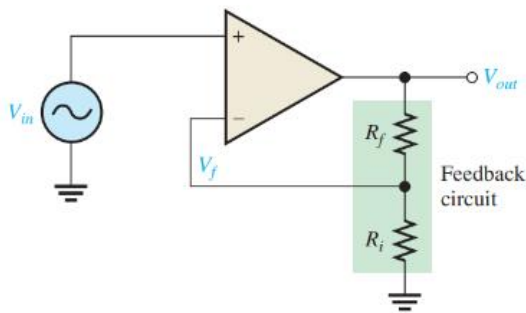

FIGURE 12–16
Differential Mode In the **differential mode**, either one signal is applied to an input with the other input grounded or two opposite-polarity signals are applied to the inputs. When an op-amp is operated in the single-ended differential mode, one input is grounded and a signal voltage is applied to the other input, as shown in Figure 12–4. In the case where the signal voltage is applied to the inverting input as in part (a), an inverted, amplified signal voltage appears at the output. In the case where the signal is applied to the non-inverting input with the inverting input grounded, as in Figure 12–4(b), a noninverted, amplified signal voltage appears at the output.
In the double-ended differential mode, two opposite-polarity (out-of-phase) signals are applied to the inputs, as shown in Figure 12–5(a). The amplified difference between the two inputs appears on the output. Equivalently, the double-ended differential mode can be represented by a single source connected between the two inputs, as shown in Figure 12–5(b).
Common Mode In the **common mode**, two signal voltages of the same phase, frequency, and amplitude are applied to the two inputs, as shown in Figure 12–6. When equal input signals are applied to both inputs, they tend to cancel, resulting in a zero output voltage.
► **FIGURE 12–6**
First, the ideal op-amp has *infinite voltage gain* and *infinite bandwidth*. Also, it has an *infinite input impedance* (open) so that it does not load the driving source. Finally, it has a *zero output impedance*. Op-amp characteristics are illustrated in Figure 12–2(a). The input voltage, V_{in} , appears between the two input terminals, and the output voltage is $A_v V_{in}$, as indicated by the internal voltage source symbol. The concept of infinite input impedance is
An op-amp connected in a **closed-loop** configuration as a **noninverting amplifier** with a controlled amount of voltage gain is shown in Figure 12–16. The input signal is applied to the noninverting (+) input. The output is applied back to the inverting (–) input through the feedback circuit (closed loop) formed by the input resistor R_i and the feedback resistor R_f . This creates negative feedback as follows. Resistors R_i and R_f form a voltage-divider circuit, which reduces V_{out} and connects the reduced voltage V_f to the inverting input. The feedback voltage is expressed as
The difference of the input voltage, V_{in} , and the feedback voltage, V_f , is the differential input to the op-amp, as shown in Figure 12–17. This differential voltage is amplified by the open-loop voltage gain of the op-amp (A_{ol}) and produces an output voltage expressed as
An op-amp connected as an **inverting amplifier** with a controlled amount of voltage gain is shown in Figure 12–20. The input signal is applied through a series input resistor R_i to the inverting ($-$) input. Also, the output is fed back through R_f to the same input. The non-inverting ($+$) input is grounded.
◀ **FIGURE 12–20**
Characteristics of a practical op-amp are *very high voltage gain*, *very high input impedance*, and *very low output impedance*. These are labelled in Figure 12–2(b). Another practical consideration is that there is always noise generated within the op-amp. **Noise** is an undesired signal that affects the quality of a desired signal. Today, circuit designers are using smaller voltages that require high accuracy, so low-noise components are in greater demand. All circuits generate noise; op-amps are no exception, but the amount can be minimized.
Internal Block Diagram of an Op-Amp A typical op-amp is made up of three types of amplifier circuits: a differential amplifier, a voltage amplifier, and a push-pull amplifier, as shown in Figure 12–3. The **differential amplifier** is the input stage for the op-amp. It provides amplification of the difference voltage between the two inputs. The second stage is usually a class A amplifier that provides additional gain. Some op-amps may have more than one voltage amplifier stage. A push-pull class B amplifier is typically used for the output stage.